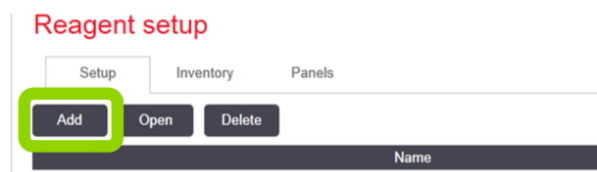

Figure 83: Add reagent button
2. From the **Setup** tab, click the **Add** button (see Figure 83).